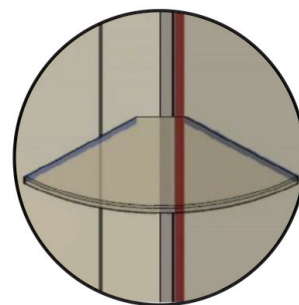

FIG 22.
- Clean up adhesive with spatula. Remove masking take (FIG 22).